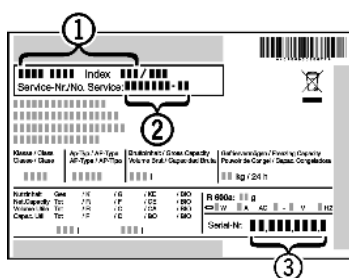

Fig. 45
- ▶ Read off the appliance name Fig. 45 (1), service no. Fig. 45 (2) and serial no. Fig. 45 (3) from the model plate. The model plate can be found on the inside of the appliance on the left.